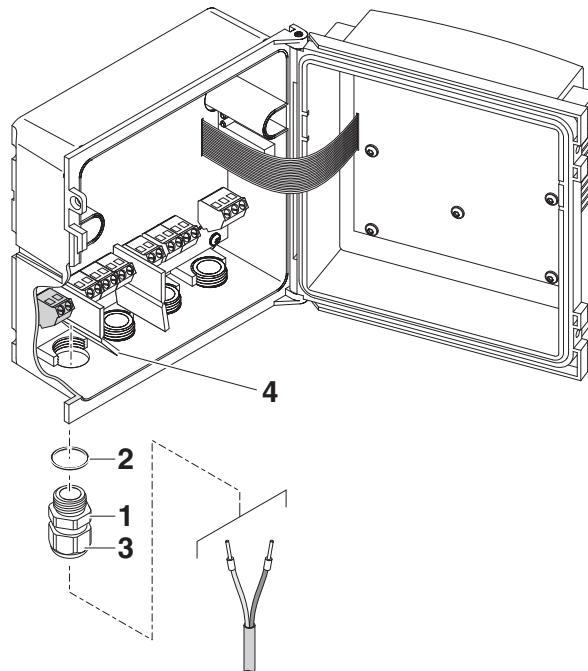

Fig. 3-15 Inserting the 24V AC/DC line
| 5 | Screw a cable gland (pos. 1 in Fig. 3-15) with sealing ring (pos. 2) into the enclosure below the 24 V AC/DC connection.            |
| 9 | Tighten the cap nut (pos. 3 in Fig. 3-15).   |